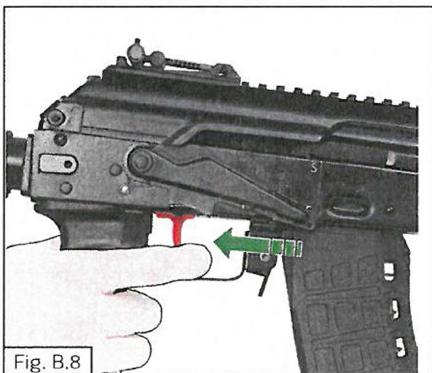

Fig. B.8
- make a control release by pulling the trigger as shown in Fig. B.8;